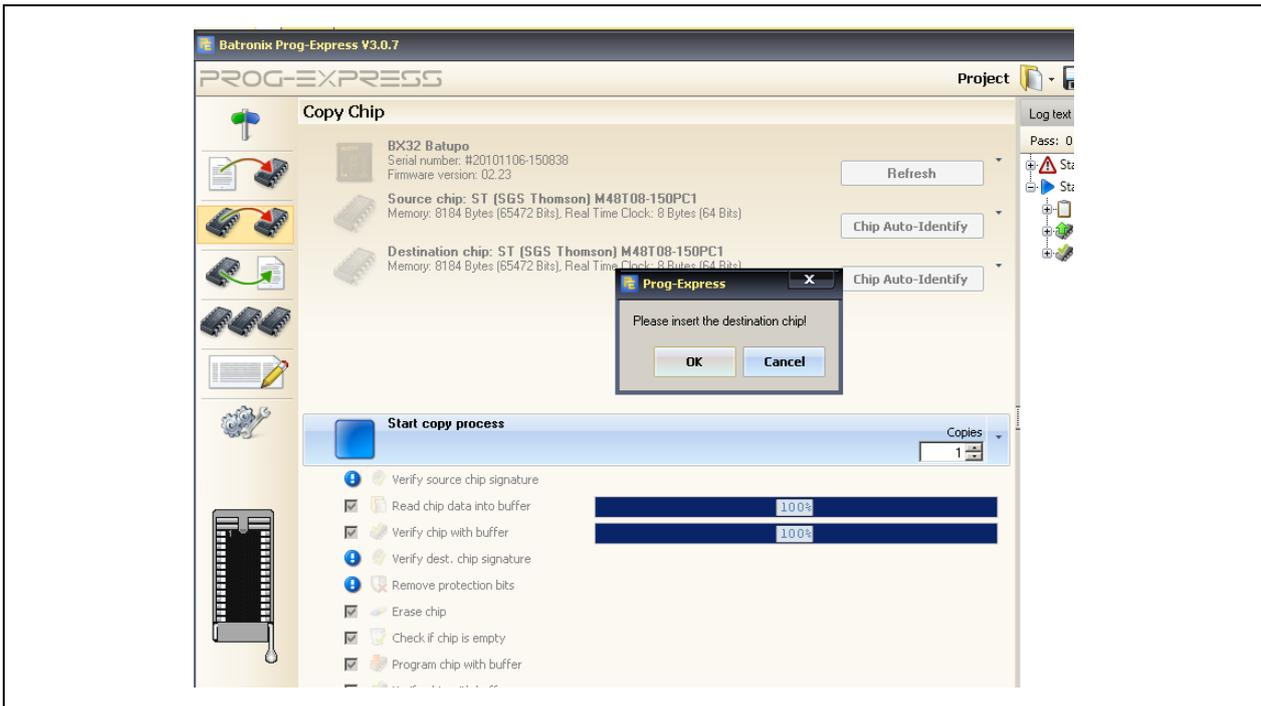

Figure 13: Copy is made, insert new, empty chip for programming
- i) In the software, click on the “start copy process” button. Once the software has copied the data, it will prompt you to insert the “destination chip” (see Figure 13). Remove the original NVRAM chip from the programmer and insert the **new, empty** NVRAM chip. Click OK.